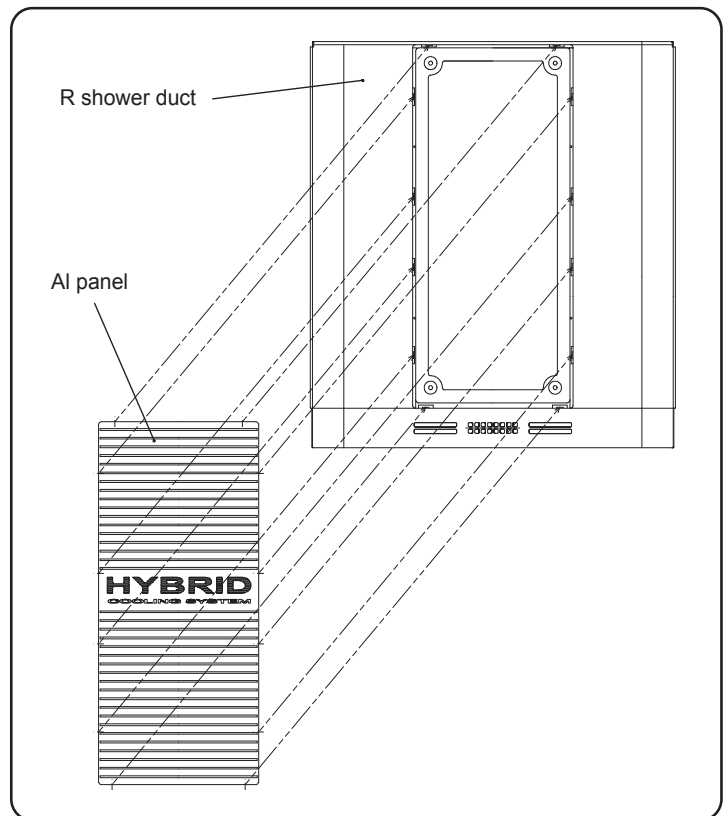

Figure A-14
- 4) Fix AI panel to "3" ass'y. (Figure A-14)